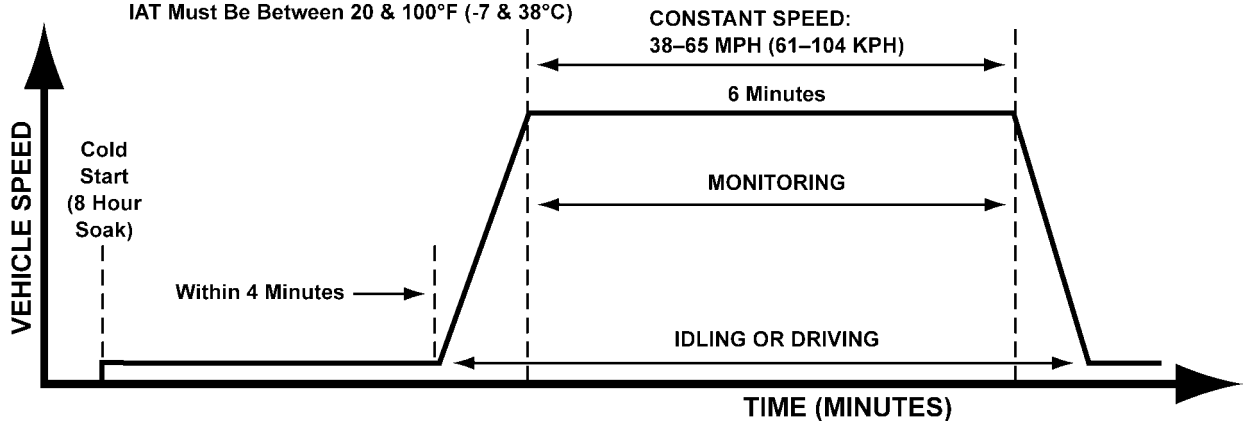

Figure MA000-21
3. Drive vehicle as indicated by the graph (Figure MA000-21).